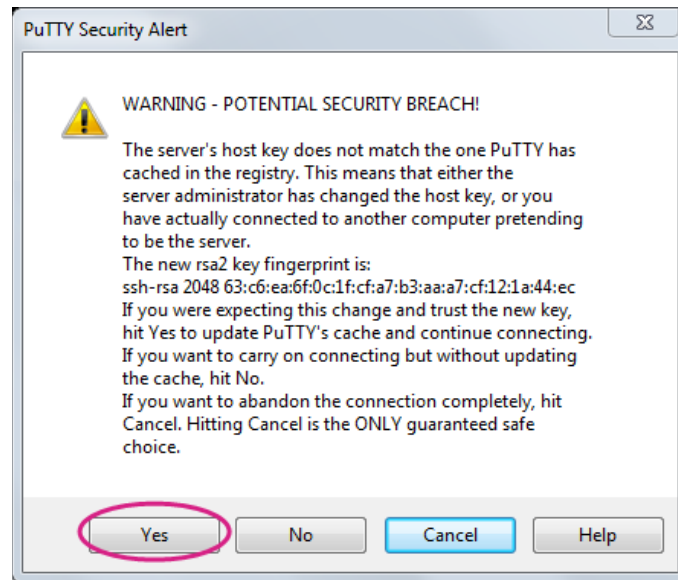

Figure 20 PuTTY Security Warning
- 3) A Security Alert window will pop up as shown in Figure 20 below, this happens when you use PuTTY for the first time, or after upgrading firmware, or use a different board. Click **Yes**.